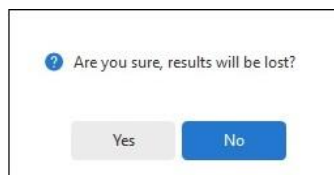

Figure 9.4: Discard single test results confirmation
- Discard results; user is prompted to confirm action by selecting the option from the confirmation window, **Figure 9.4**.